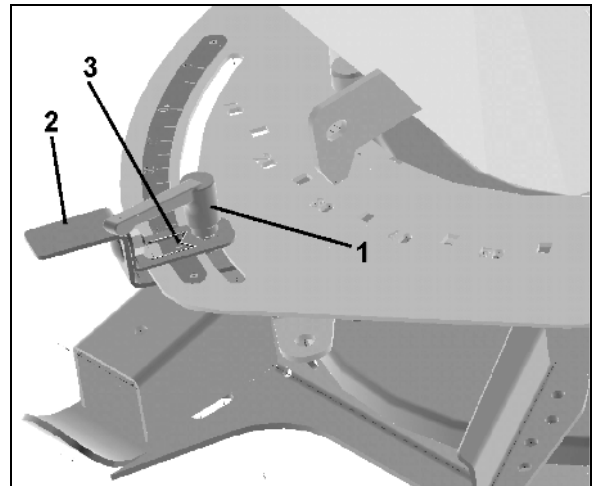

Fig. 36
1. Slacken the thumb nut (Fig. 36/1).
2. Set the pointer of the shutter slide lock (Fig. 36/2) onto the desired figure on the scale (Fig. 36/3).